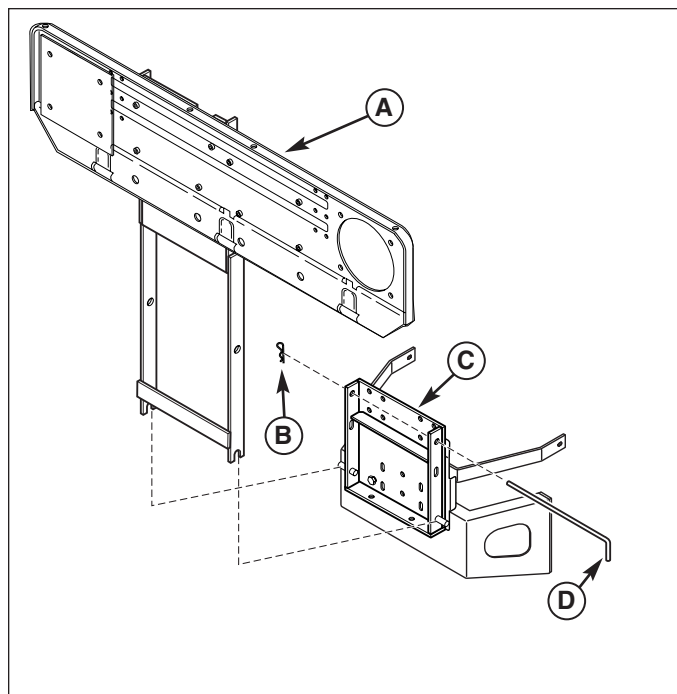

Figure 3. Install Back Plate (Flat Style Bumper shown)
4. **Warning: Back plate (A) will fall when rod (D) is removed.** Remove the hair pin (B, Figure 3) and rod (D) while holding back plate (A).
5. Lift the back plate and support assembly (A, Figure 3) off hitch plate (C).